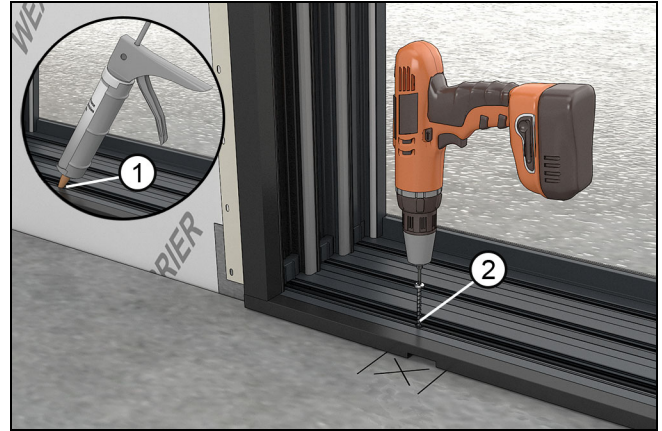

Figure 55 Fastening performance sill
6. Position the frame to the correct depth inject sealant and install an anchor screw in the stationary side sill. See Figure 55.